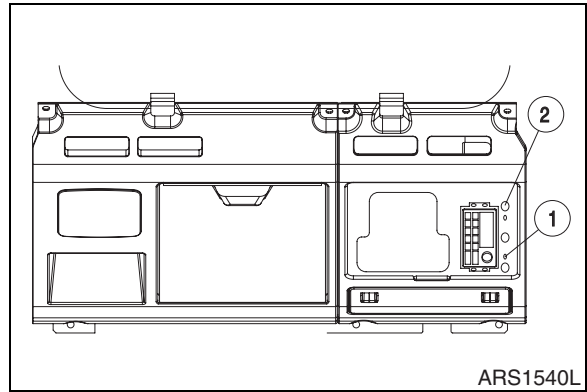
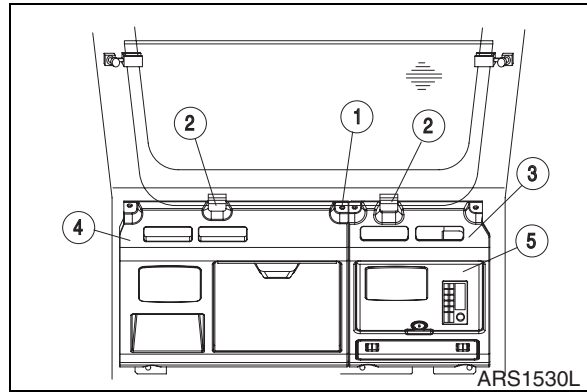

Figure 10
Figure 11
9. Install stereo assembly with bolts (2, Figure 10) after connecting speaker and antenna wires.
10. Install right side dash cover (4, Figure 11) with bolts (1, Figure 10).
11. Install left side dash cover (3, Figure 11) with bolts (1, Figure 10). Install two rubber stops (2, Figure 11).
12. Install cover (5, Figure 11) on left side dash cover (3).